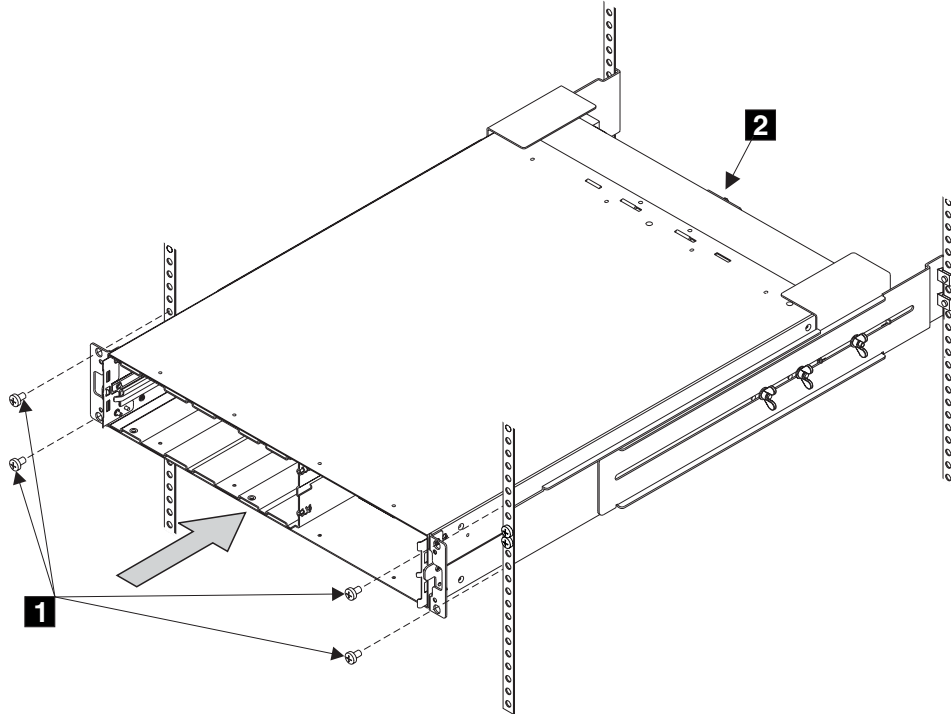

Figure 24. Installing the uninterruptible power supply into a rack
6. Install the front flathead screws **1** (see Figure 24 on page 22).